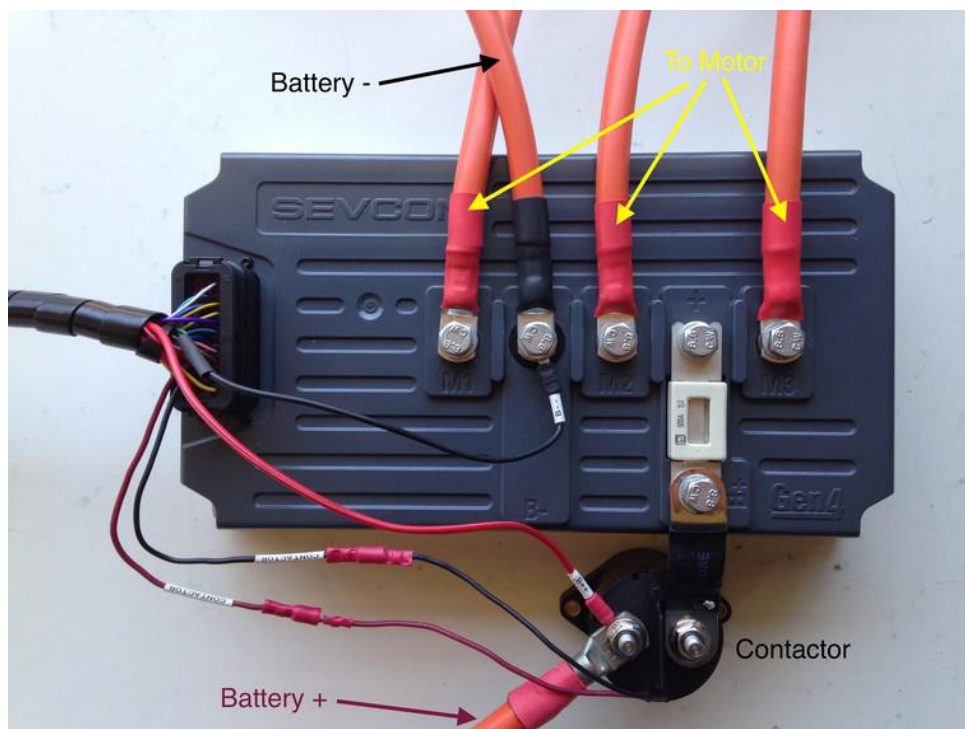

Figure 6 Correct cables and harness arrangement
4. Terminate the motor phase cables to the controller as per Figure 6. (11Nm \pm 2Nm)
5. Connect the contactor to the controller via the multi leaf connector as shown in Figure 6. Do not connect the battery side yet and ensure the relay coil wires are disconnected. (8Nm for the contactor side, 11Nm \pm 2Nm for the controller side)
7. Connect the negative battery cable through an isolator (not supplied) to the B- terminal of the controller as shown in Figure 6. At the same time connect the negative auxiliary wire from the harness to the same terminal.
8. Connect the positive battery cable through an isolator (not supplied) to the contactor as shown in Figure 6. At the same time connect the positive auxiliary power wire from the harness to the same terminal.
9. Confirm the isolator is open (i.e. no battery current can flow) and double check steps 1-7 before connecting the relay coil wires to the contactor as per Figure 6.